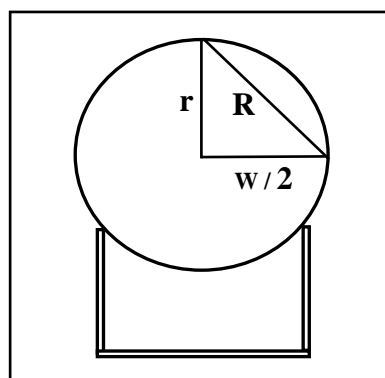

Figure 11.5: Determining  $r$
4. If your figures are still not quite in agreement, a final tune-up is in order. The ball doesn't actually rotate on its full circumference. In figure 11.5, notice that the effective radius, r, is related to the overall radius, R, and the width of the channel, W, by the relationship:  $r^2=R^2-4(W/2)^2$ .